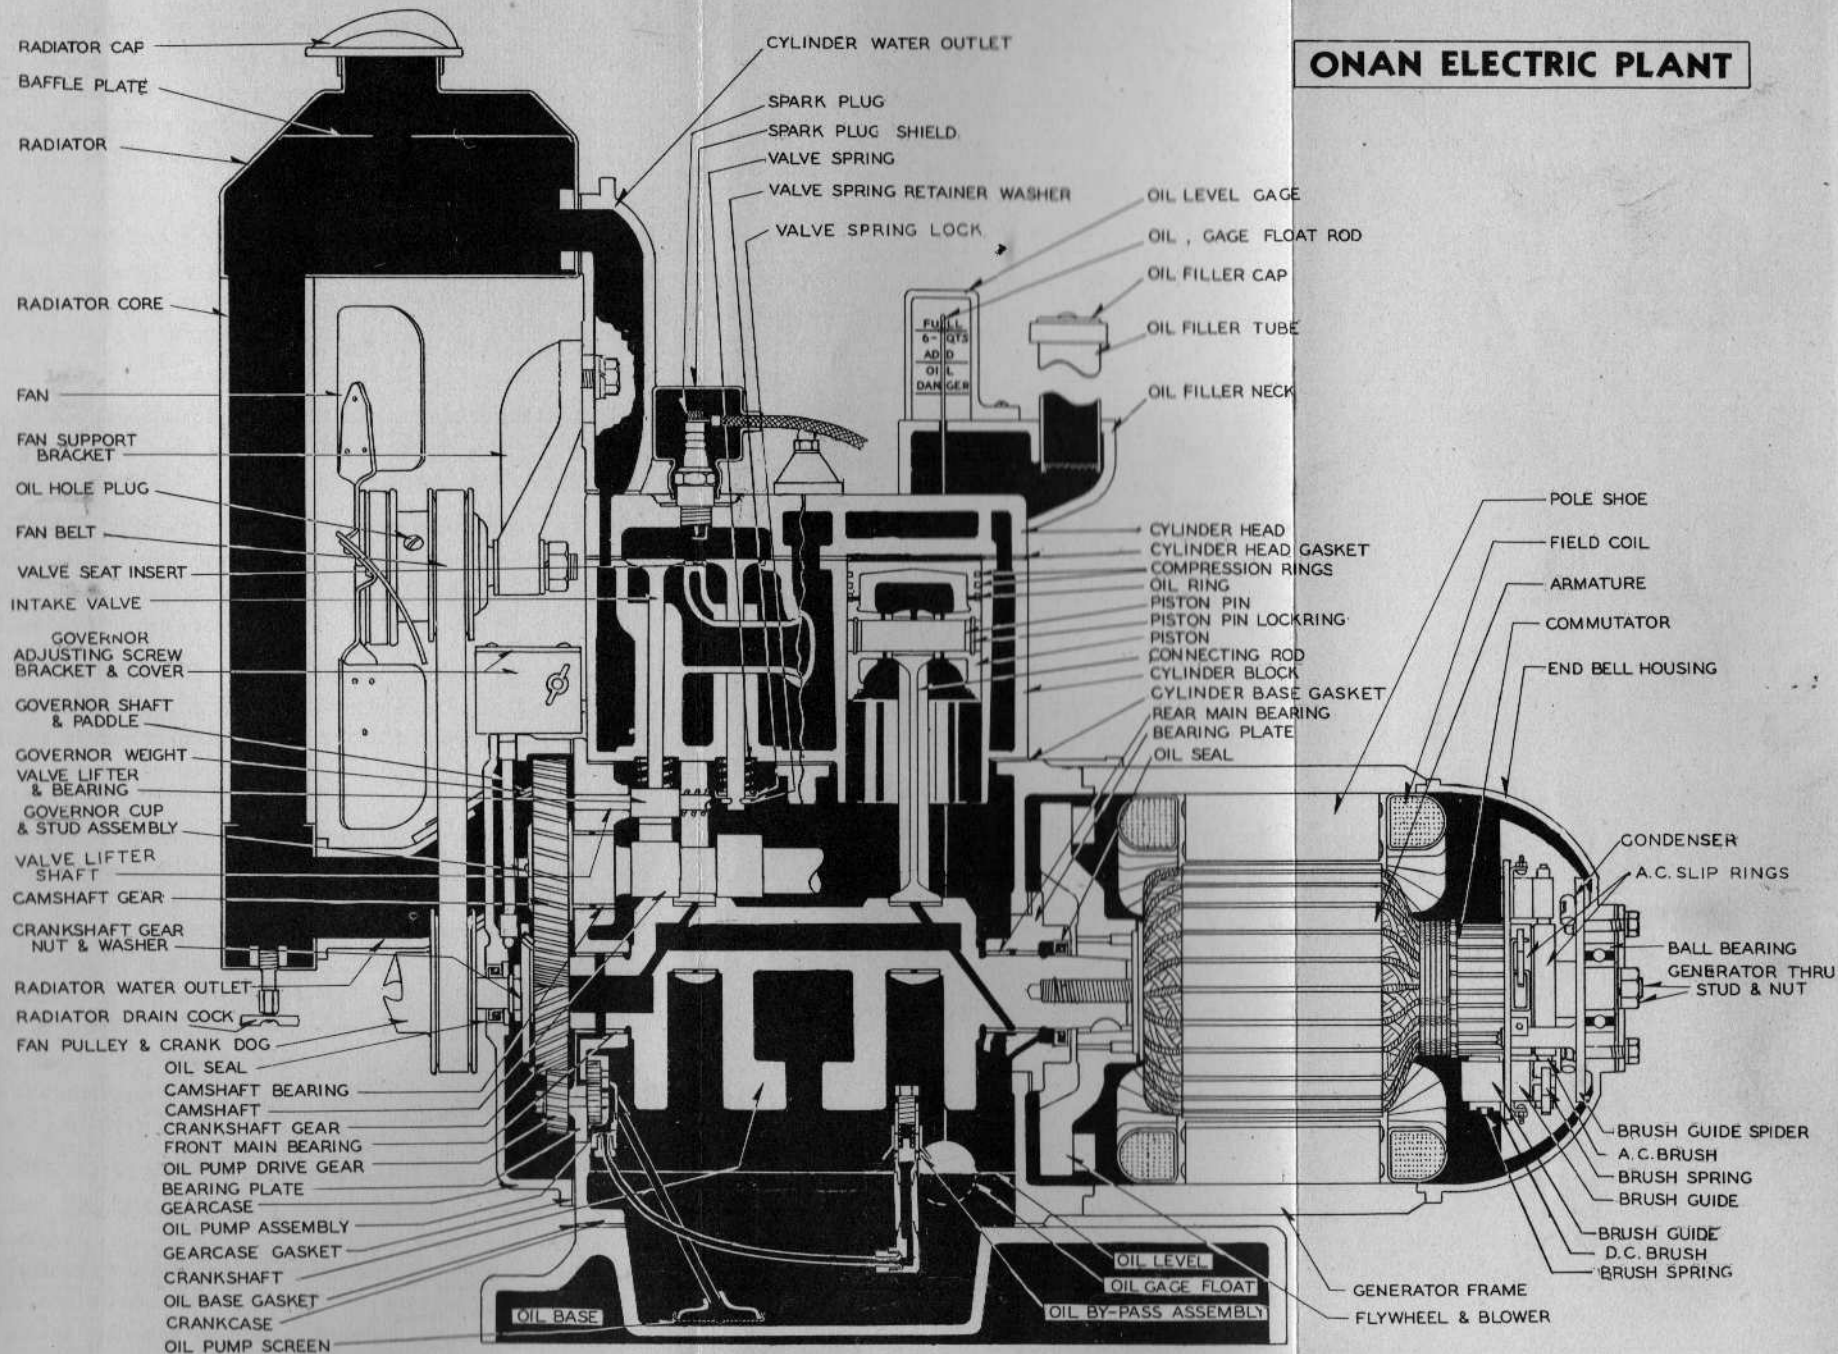

FIG. 4 SECTIONAL VIEW OF ENGINE AND GENERATOR (INSERT—LARGE)
- g. **COOLING SYSTEM**—The engine cooling system, Fig 4, is of the type usually called thermo-siphon. It serves to keep the operating temperatures of the cylinders, pistons, valves, and adjacent parts low enough for proper operation and to prevent overheating and resulting damage.
- h. **LUBRICATING SYSTEM**—The lubricating system, Fig. 4, provides a thin film of oil between adjacent bearing surfaces within the engine.
- s. **SPARK PLUGS**—The spark plugs, Fig 4, are important parts of the ignition system. Each consists of a center electrode highly insulated from the base which carries another electrode. The ignition spark jumps across the gap between the electrodes and it is important that this gap be kept adjusted to approximately .030 in. The spark plugs are Champion, No. 6M.